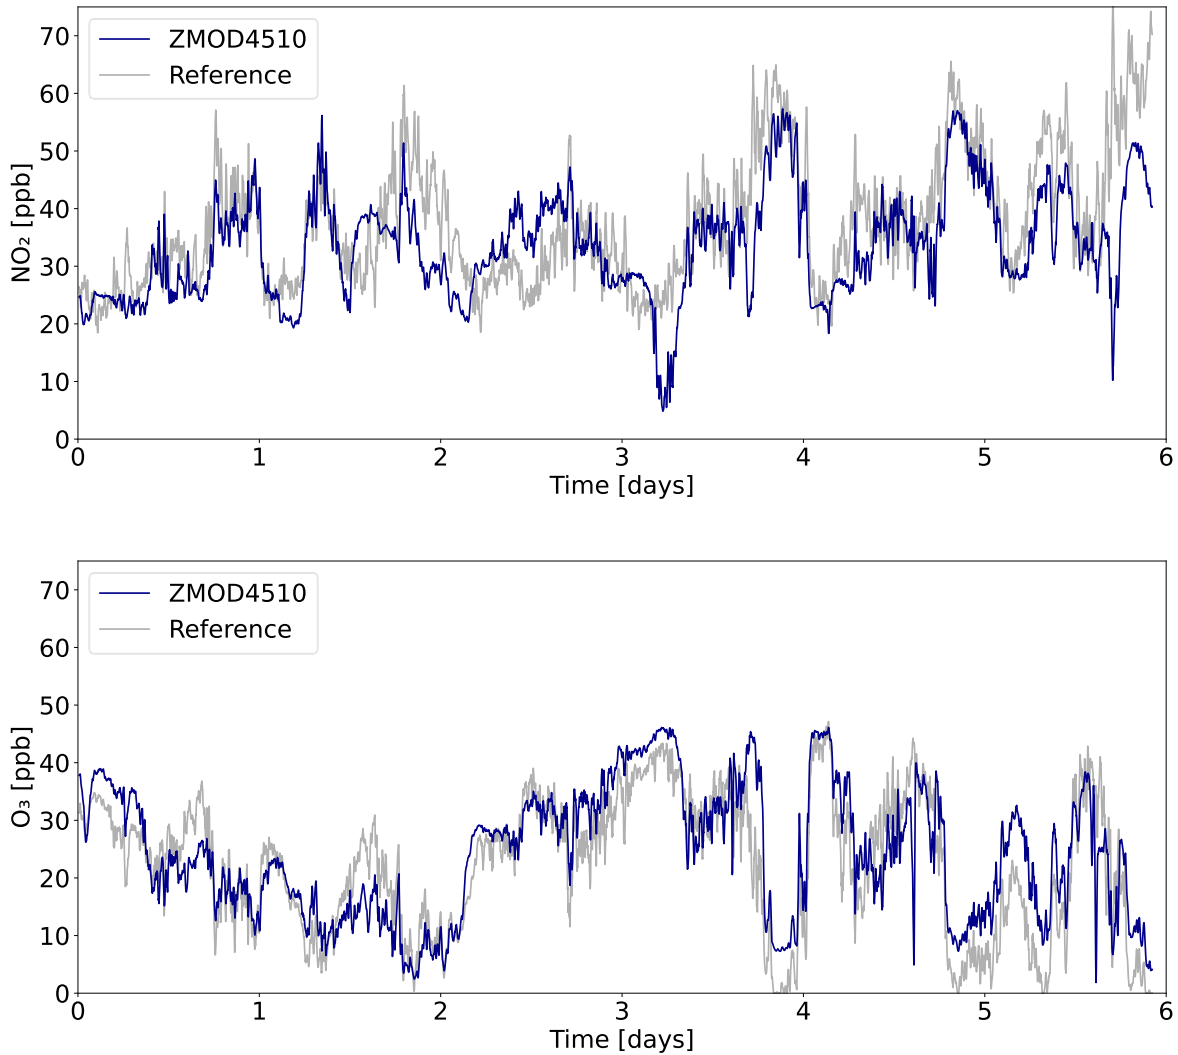

Figure 4. Nitrogen Dioxide and Ozone Course Compared to a Reference Instrument
The ZMOD4510 operates with an optimized temperature profile to detect signatures from gases. These unique signals are supplied to a highly trained machine learning system that uses of embedded artificial intelligence (AI) technology. These algorithms can differentiate and report nitrogen dioxide (NO₂ O₃ mode) and ozone concentrations (NO₂ O₃ mode and ULP O₃ mode). They are tailored to real-world applications with the appropriate concentrations. Figure 4 shows a typical course of nitrogen dioxide and ozone concentrations determined with the ZMOD4510 in a real-world environment with selective reference instrumentation.